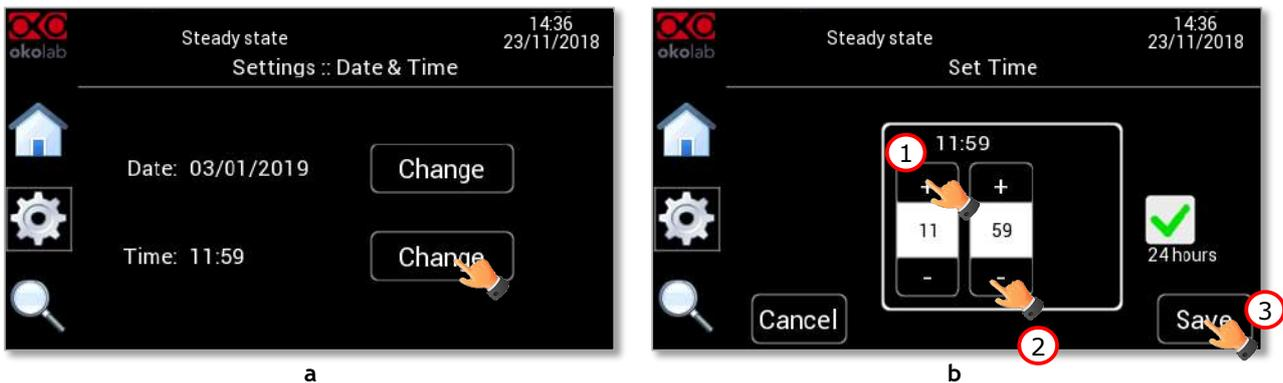

Figure 77. Set Time.
4. Press *Change* (see Figure 77 a) to enter the *Set Time* page.
5. Change the time using *+* and *-* (1 and 2 in Figure 77 b).
6. Press *Save* to confirm (3 in Figure 77 b) or *Cancel* to undo.